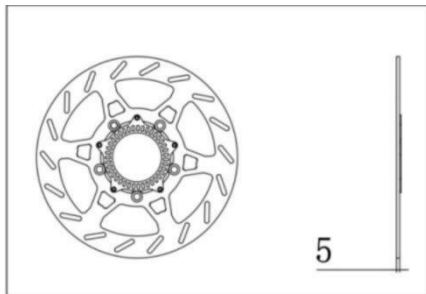

Figure 26 Inspection of Front Brake Disc
9.1. Inspection of front brake disc (Figure 26)